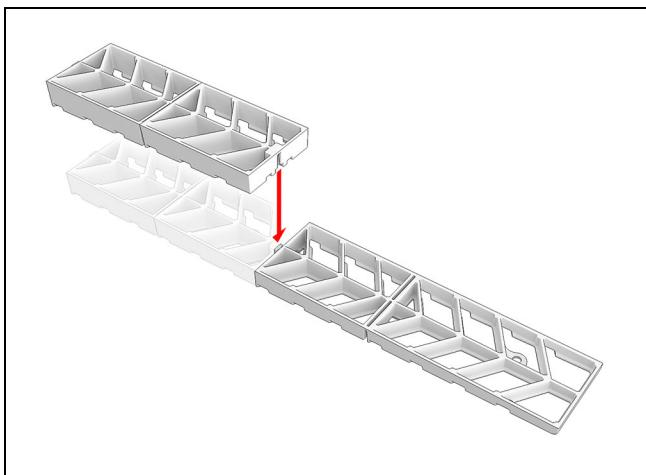

Figure 11 Connect counter-shims
1. Assemble the counter-shims sent with the door. See Figure 11.